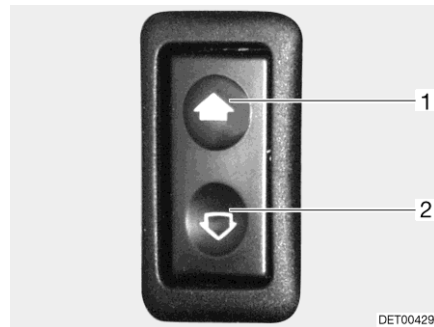

Fig. 35 Switch for electrical window winder
- Opening: ■ Press the lower part (Fig. 35,2) of the switch.
- Closing: ■ Press the upper part (Fig. 35,1) of the switch.